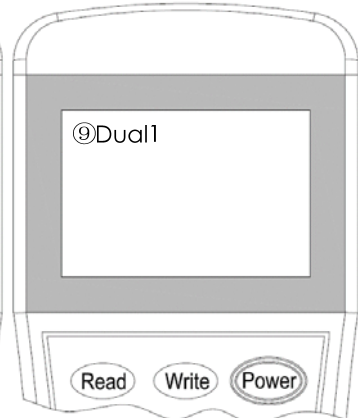

Fig.8 Address setting
3. Exit the programming tool to the main menu and then press button **"Write"** or **"2"** to set address. Input the desire device address value from 1 to 254 and then press **"Write"** to save the new address, as shown in Figure 8.